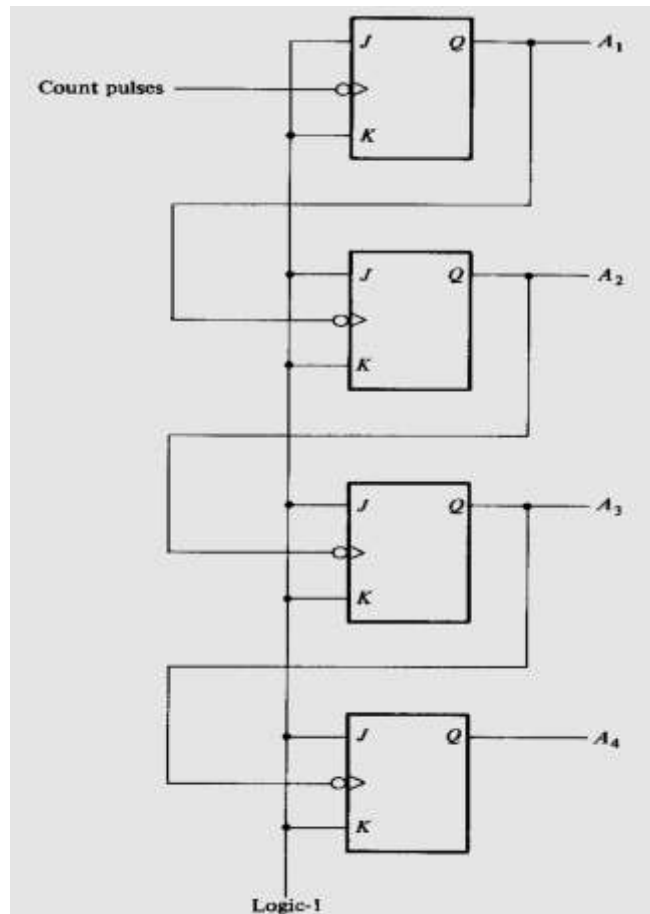

Figure 11.1 4-bit binary ripple counter
- Four-bit binary ripple counter is shown in Fig. 11.1